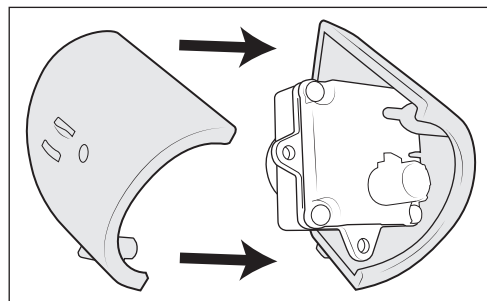

Figure 20
3. Install factory camera into clamshell mount (fig. 20) and plug into 90° connector on wiring harness.